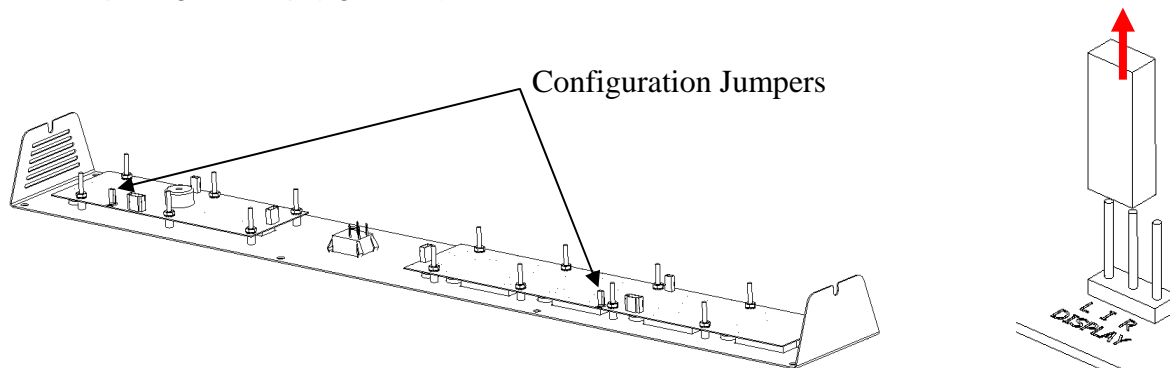

FIGURE 4B - Configuration Jumpers
- Remove the two configuration jumpers labeled "L I R DISPLAY" on each board by carefully pulling them up (figure 4B).